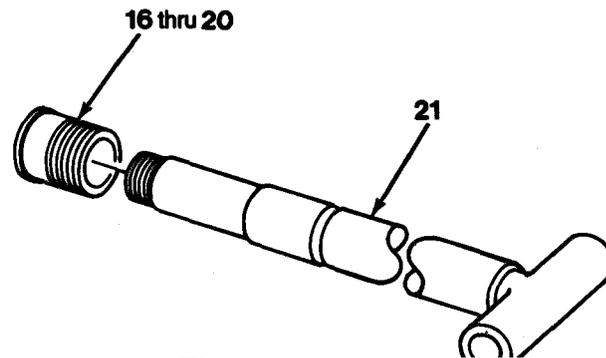

Figure 13-8
3. Install items 16 thru 20 as an assembly on rod assembly (21, Figure 13-8).